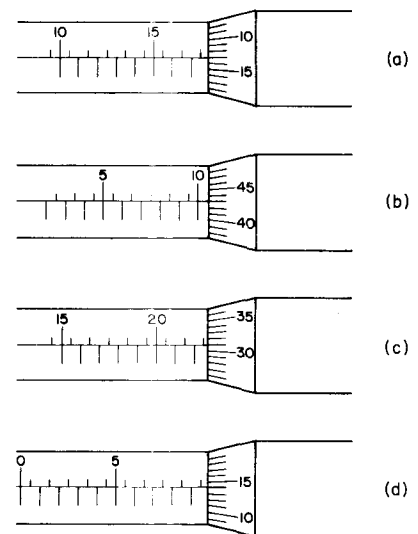

Fig. 4.20
1. State the accuracy to which measurements may be made when using: (1) a micrometer; (b) calipers; (c) a rule.
2. State the readings for the micrometer settings shown in Fig. 4.20.